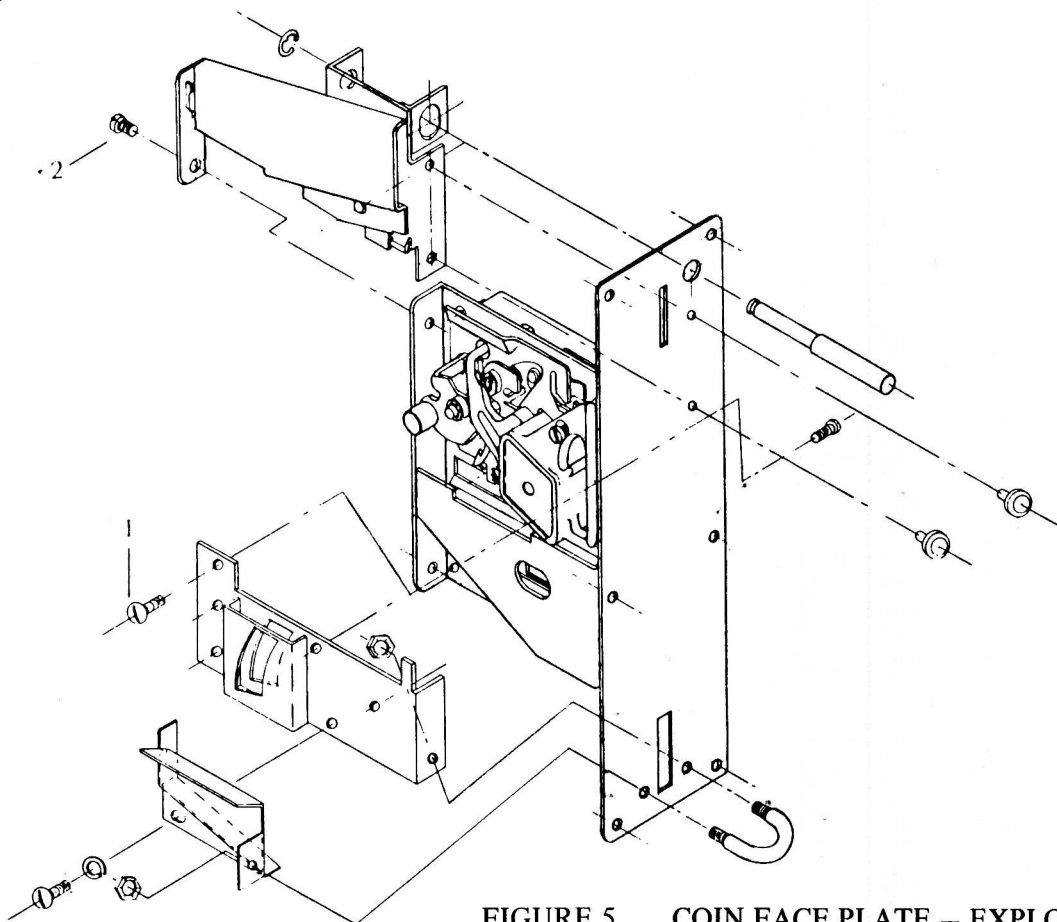

FIGURE 5 COIN FACE PLATE — EXPLODED
- a. COIN ACCEPTOR: The entire coin acceptor/face plate unit is removed by first disconnecting the coin switch wires and removing the six face plate mounting screws. The coin acceptor is separated from the face plate by removing screws #1 and #2 in Figure 5.